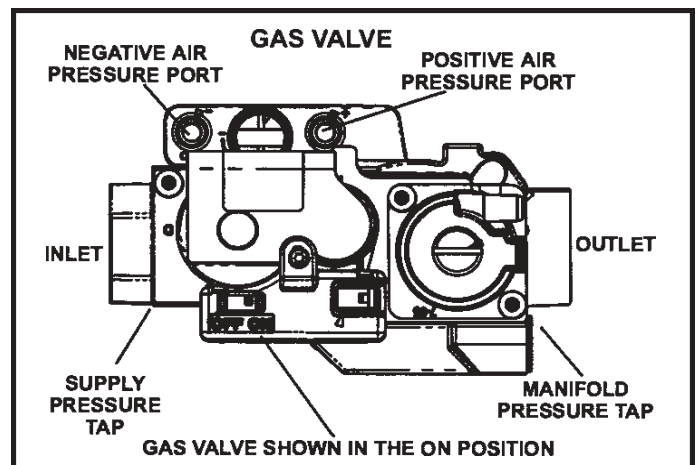

Figure 48
Gas Valve Operation (Figure 48)
6. Move the gas valve switch to the **OFF** position. See Figure 48.
8. Move gas valve switch to the **ON** position. See Figure 48. **DO Not** force.